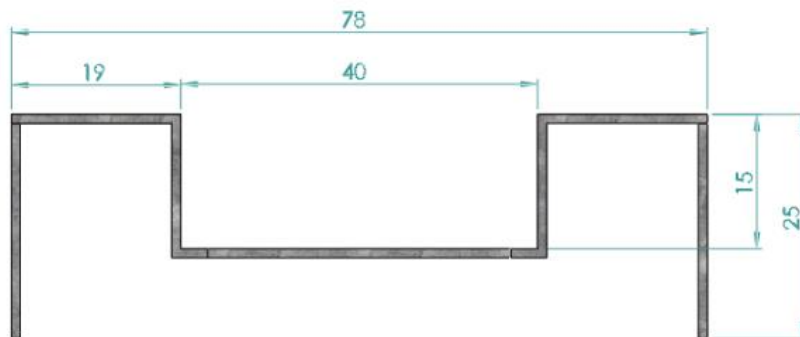
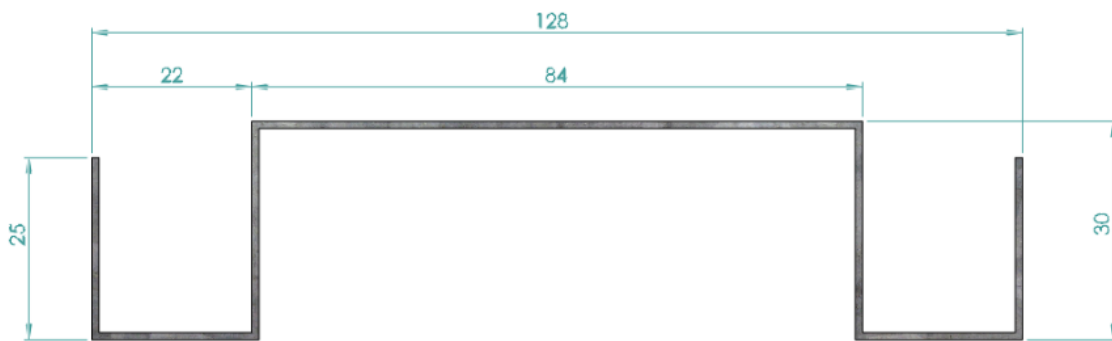

**Figure 1.** Female Steel Profile for  $3\frac{3}{4}$ " (96 mm) Thick Wall Panels
**Figure 6.** Arch Steel for 53/4" (146 mm) Thick Wall Panels
- 1.4.1.1.3 Steel member cross sections are displayed in Figure 1 through Figure 6.